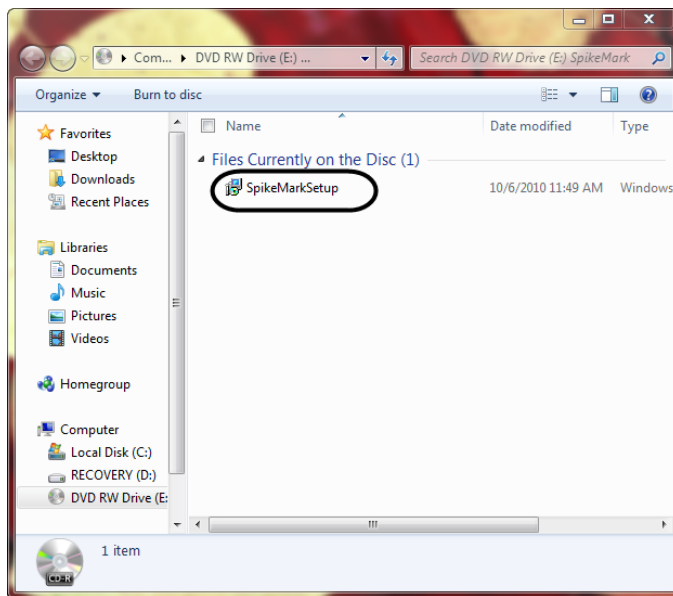

Figure 2
4. Double-click the **SpikeMarkSetup** file (Figure 2).